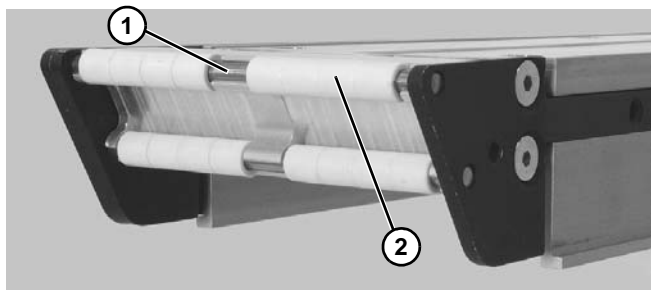

Figure 69
4. Slide nose bar rods (**Figure 69, item 1**) out side of conveyor and replace rollers (**Figure 69, item 2**) as necessary.